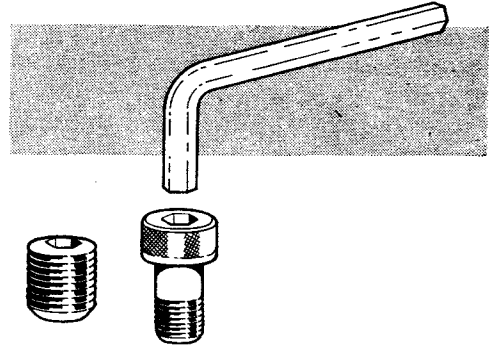

Fig. 5 Allen key and set bolts
5. **Allen keys.** Some set bolts have circular heads with a hexagonal recess, and are tightened or slackened with an Allen key (Fig. 5). These keys are made of hardened steel and are classified by the distance across the flats of the hexagon.